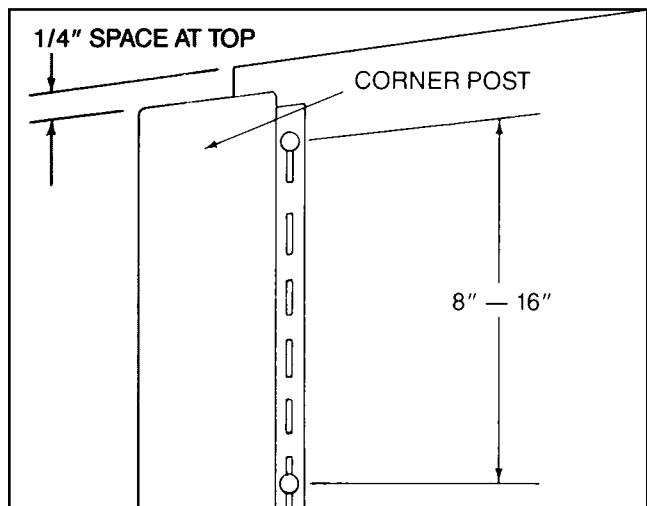
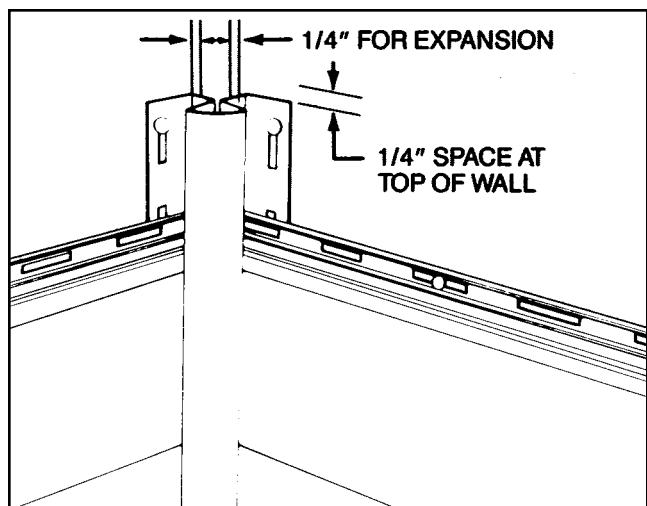
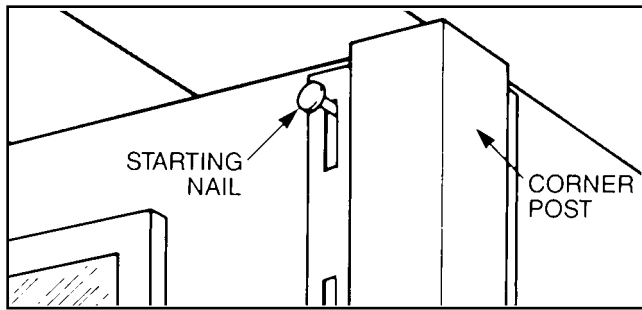

Fig 5.4
Fig 5.5
Fig 5.6
**3. CORNER POSTS** Both Outside Corner Posts (Fig. 5.4) and Inside Corner Posts (Fig. 5.5) are installed before siding is applied. Use a framing square, carpenter's level or plumb line to position corner post channels in a correct vertical angle. It is particularly important that posts are installed square and plumb. Do not push, pull, twist, jam or in any other way distort the corner post during installation. This will affect the appearance and performance of the siding installation.
Begin by measuring down 1/4" from the finished soffit at the top of the corner (Fig. 5.4). Put a starting nail in the top of the uppermost nailing slot (Fig. 5.6) and nail the rest of the corner post every 6" to 12" in the center of the nailing slots. Do not nail the channel down tight - allow for expansion.